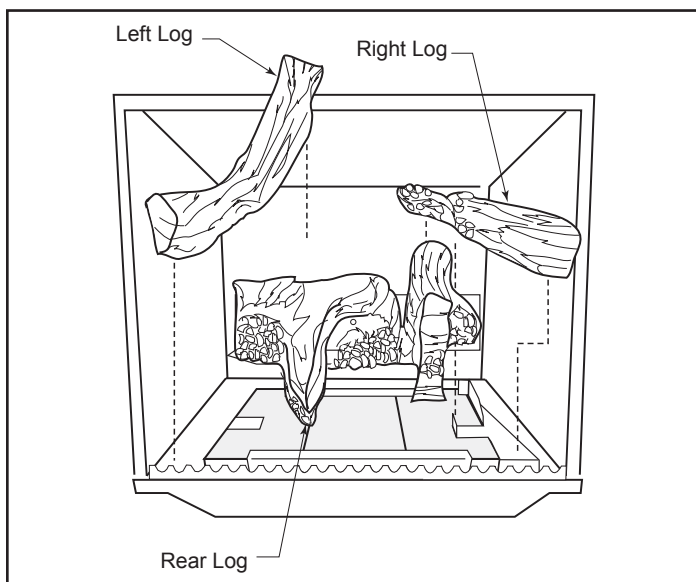

Figure 10 - Install rear, left and right logs.
3. Install the right log by placing it on the sheet metal bracket behind the grate with the right end of the log, “the thicker end”, touching the grate and the right side the firebox. Swing the left end of the log “painted end”, backward until it comes in contact with the branch on the rear log. Set the log down over the bent tab on the right. When the log is in place it rests on the tab mentioned earlier and the tip of it comes in contact with the branch on the rear log. (Figure 10)